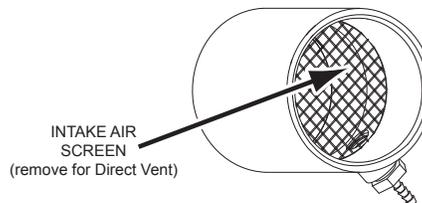

Figure 18. Intake Air Screen
13. Ensure the Intake Air Screen on the Intake Air Connection to the water heater is removed before connecting the intake air pipe to the water heater. See *Figure 18* (page 24).